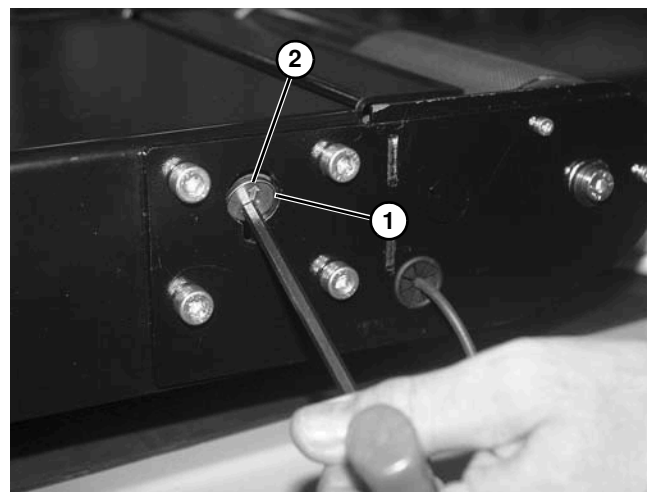

Figure 197
3. Remove tracking cam (Figure 197, item 1) by rotating so that the arrow (Figure 197, item 2) is facing directly up, and remove from conveyor.